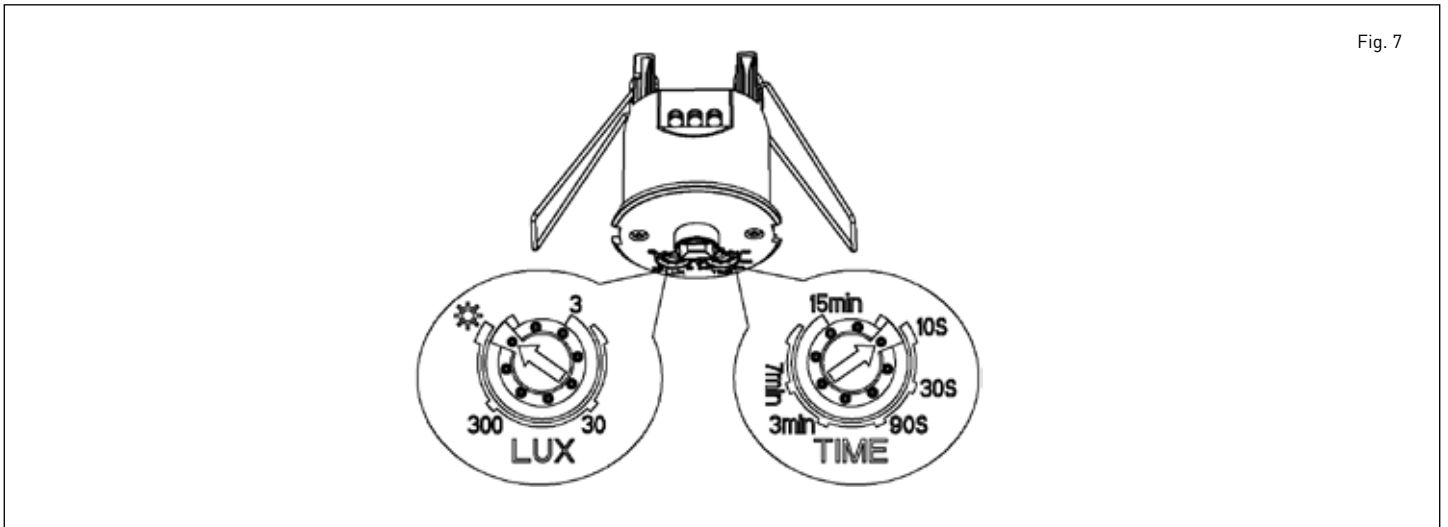

Fig. 7
1. Turn the TIME knob to minimum and turn the LUX knob to maximum as shown in Fig. 7.